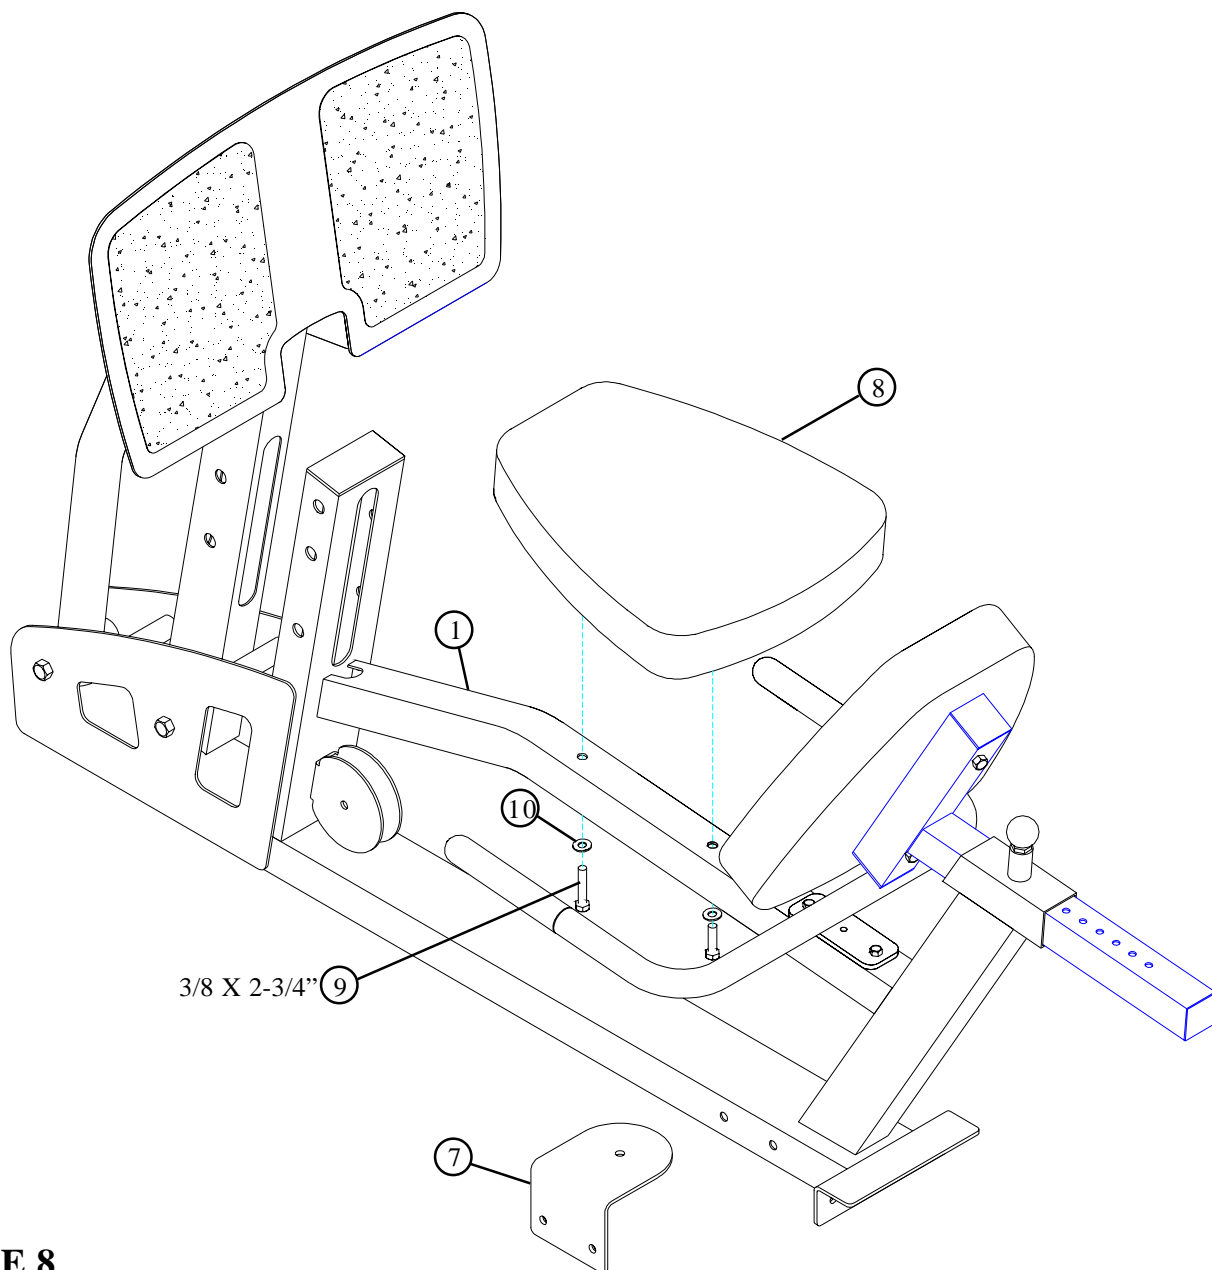

FIGURE 8
- **SECURELY** assemble one PAD (8) to the FRAME (1) using two 3/8 X 2-3/4" BOLTS (9) and two 3/8" FLAT WASHERS (10) as shown in FIGURE 8.
- Refer to the LEG PRESS ADAPTOR assembly instructions to attach the 100 LEG PRESS to the home gym. The PULLEY BRACKET (7) will be attached at that time.